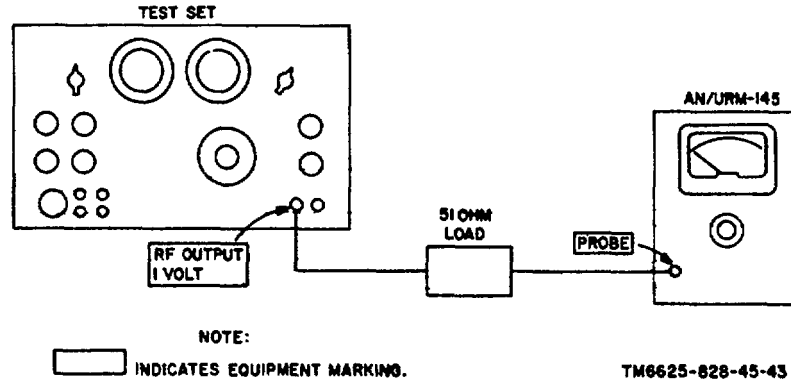

Figure 44 RF meter test setup.
b. Test Connections and Conditions. Connect the test equipment as shown in figure 44.